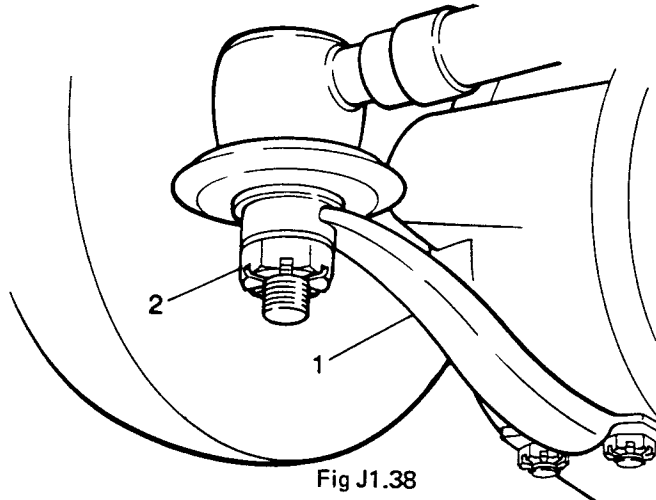

Fig J1.38
(4) Refer to Fig J1.38. Reconnect the track rod (1) at the ball joint. Torque the castellated nut (2) to 40 N.m and fit a new split pin.
(5) Replace the front axle half shaft (see Sub-sub-section J1.4, Chapter 5).
(6) Check and, if necessary reset, the position of the steering lock stop plate.